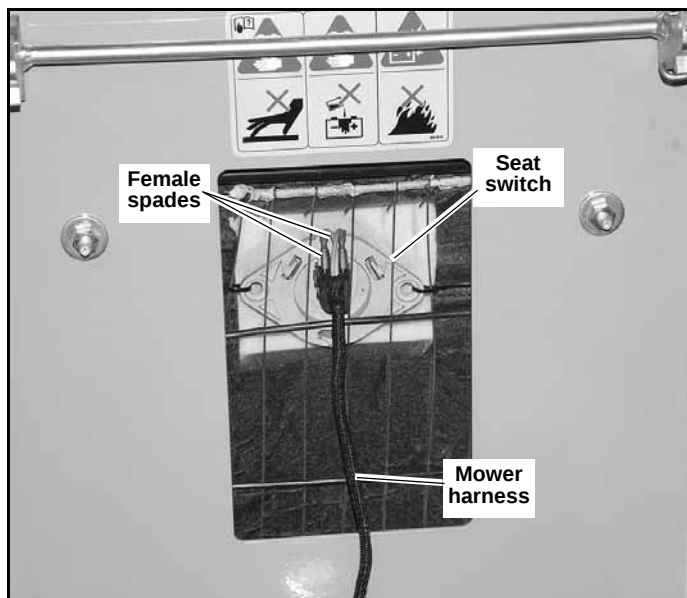

Figure 5-1
3. Raise the seat platform and disconnect the mower harness from the seat switch. Bypass the seat switch by connecting the two mower harness female spades together. Figure 5-1
properly. Figure 5-1